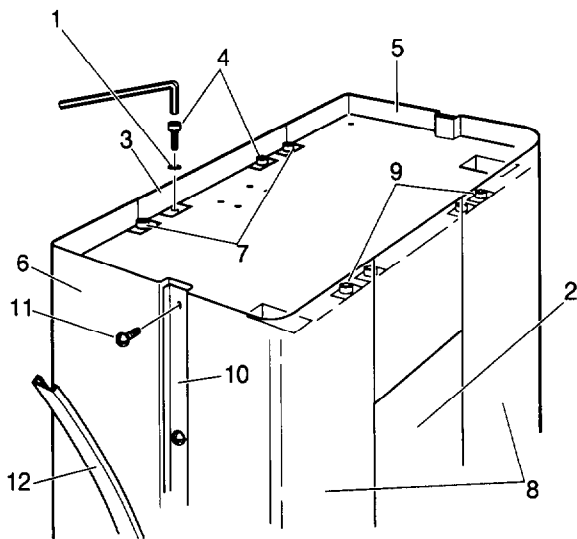

Fig. 3
- all lateral covers of the stand (5,6,8/Fig. 3)